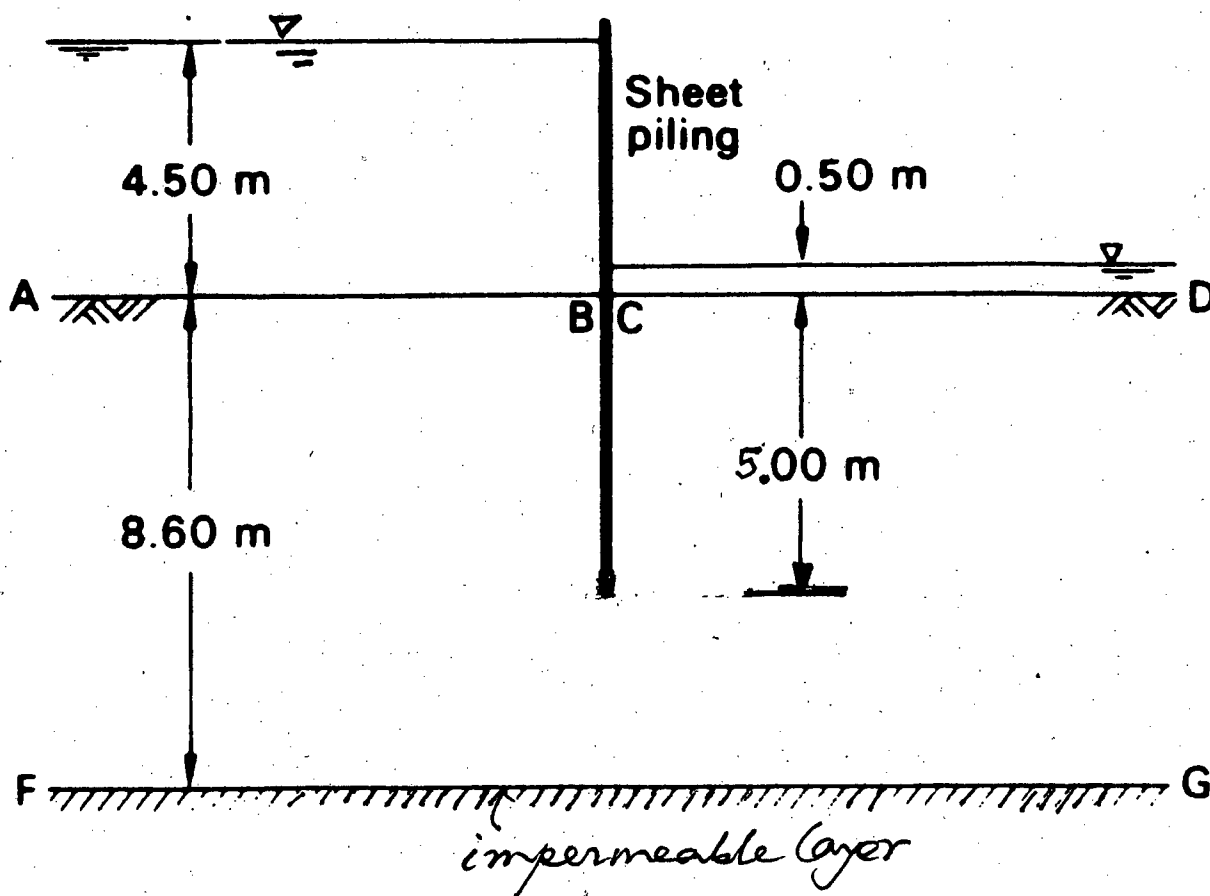

Fig 1
- (c) There are two borrow areas 'A' and 'B' which have soils with void ratios of 0.80 and 0.70 respectively. The in-place water contents are 20% and 15% respectively. The fill at the end of construction will have a total volume of $10,000 \text{ m}^3$ with bulk density of 2 ton/m^3 at a moisture content of 22%. Determine the volume of the soil required to be excavated from both areas. Assume $G_s = 2.65$. If the cost of excavation of soil and transportation is Tk. 2000/- per 100 m^3 for area 'A' and Tk. 2200/- per 100 m^3 for area B, which of the borrow area is more economical? Also calculate the additional quantity of water to make 100 m^3 of fully saturated borrow soil at 'A'. (20)
- (b) What is the time factor? How it is related to the average degree of consolidation? Prove that $S^2 \propto t$ for $u < 60\%$, where 'S' is the settlement achieved in time t and U is the average degree of consolidation. (16)
- (c) A clay layer 4 m thick is subjected to a pressure of 55 kN/m^2 . If the layer has a double drainage condition and undergoes 5% consolidation, determine the settlement in one year. Given, $K = 0.020 \text{ m/yr}$. How much time it will take to reach 429 mm settlement? (20)
7. (a) "The results of permeability tests on cohesionless materials are often misleading" explain. (8)
- (b) How do you determine the coefficient of permeability of clay? (8)
- (d) Draw the flow net diagram for the problem shown in Fig. 1. Also calculate seepage loss in 6 months and factor of safety against heaving using Terzaghi's criteria. Give $K = 2.5 \times 10^{-5} \text{ m/sec}$ and $\gamma_{\text{sat}} = 21.5 \text{ kN/m}^3$. (20)
- (b) A rectangular area $2 \text{ m} \times 4 \text{ m}$ carries a uniform pressure of 8 ton/m^2 at the ground surface. Find the vertical stress at 5 m below the centre and the corner of the loaded area. (18)